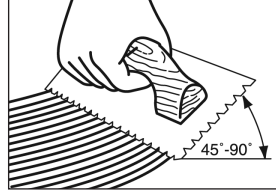

Figure 9
- Hold trowel at a minimum 45° angle (Figure 9) firmly against the subfloor to obtain a 40-60 ft.² (4-5.5 m²) per gallon spread rate (30-35 ft.² per gallon for Summit spread with the included Summit All-In-One trowel) The trowel will leave ridges of adhesive and very little adhesive between the ridges. This will allow you to still see the chalk lines between the ridges and provide the recommended spread rate.